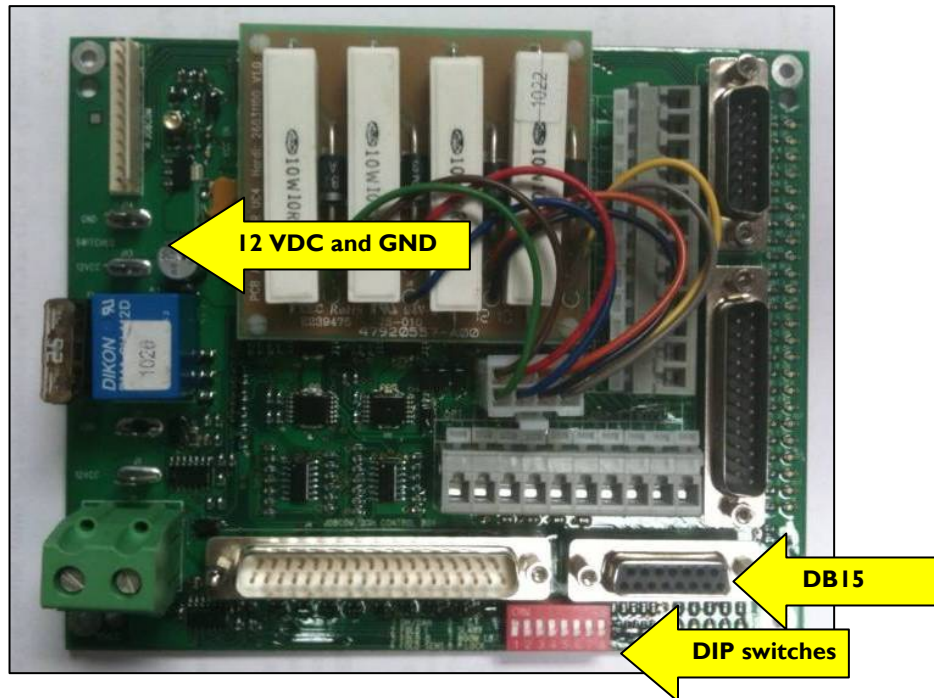

Figure 34: DAH09 PCB for AutoHeight
9. Connect the red wire with spade connector on C12 to the Switched 12VCC on the DAH09 board (**Figure 34**).
10. Connect the black wire with spade connector on C12 to the GND on the DAH09 board (**Figure 34**).